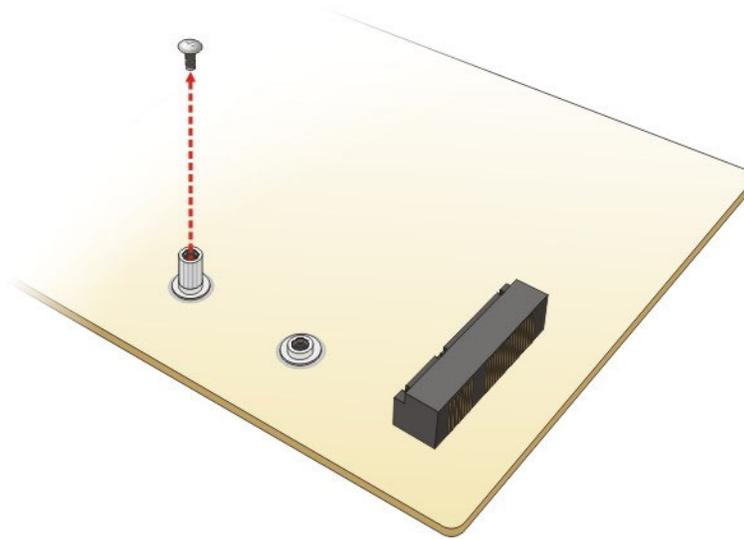

Figure 4-2: Removing the Retention Screw
- Step 2:** Remove the **retention screw**. Remove the retention screw as shown in **Figure 4-2**.
Step 2: **Remove the retention screw.** Remove the retention screw as shown in **Figure 4-2**.